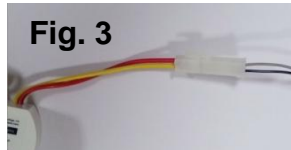

Fig. 3
INSTALLATION (Fig. 3)
5. Remove the **wire nuts** from the wire connections shown or disconnect the **quick connector** (Fig. 3).
8. Connect the **yellow driver wire** to the **white fixture wire** and secure using a **wire nut**. Connect the **red driver wire** to the **black fixture wire** and secure using a **wire nut** or reconnect the **quick connector** (Fig. 3).